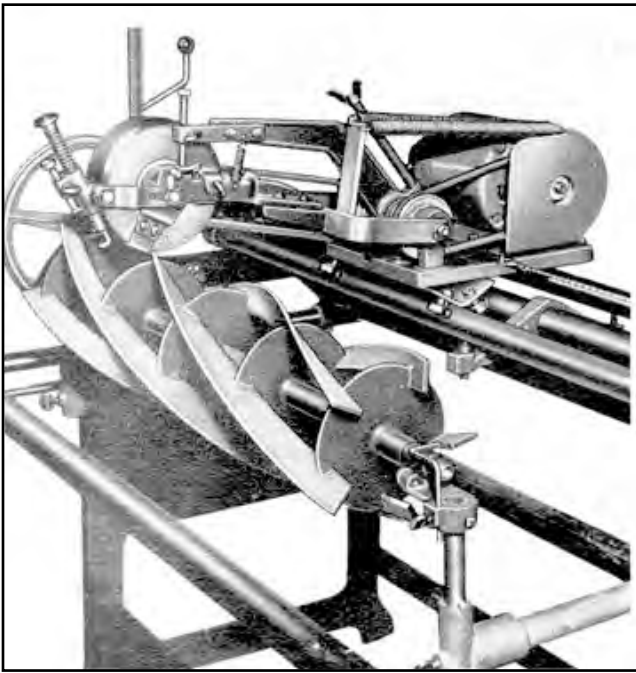

Fig. 20
91. You further have a choice, with the Ideal, of grinding the reel by the straight line principle either in the mower frame with the reel mounted in its own bearings or completely removed from the mower frame, mounting the reel on the offset V-bearing supports provided. (See fig. 19 & 20) If the mower is of such a design that the complete reel assembly is readily removed from the frame, as many of the modern type mowers are, particularly those which have the cutting section in front and out ahead of the drive wheels or rollers, the bed knife can be set aside and the reel ground completely separate. For this operation, after the reel has been removed from the frame of the lawn mower, the offset V-rests equipped with bearings are used to hold the reel in the Ideal. (See figure 20). These offset reel support bearings are slipped on over the small V-type mower support shafts, and the mower supports then spaced so that the reel will fit on these offset V-bearings. Most reels have turned shoulders of different diameters, and the inner-most shoulder is usually the area that the reel bearings fit on. Whenever possible this area should be used.
94. The reel axle shaft is now set parallel and level with the grinding wheel travel and you are ready to set the proper bevel by moving the grinding wheel to the center of the reel and lowering the grinding head either with the support arm, if a broad adjustment is needed or with the feed control screw if you are within a quarter of an inch of the reel blade when turned back and forth under the grinding wheel. The same procedure for setting the bevel is used as in the hook grinding principle previously covered with the exception that the feed control screw is now the one controlling the grinding head by passing through the support arm and bearing against the grinding wheel supporting fork as shown in figure 20. Using this feed control screw, lower grinding wheel until contact is made with the reel blade. Rotate reel blade toward you from in under the grinding wheel and lower grinding wheel an additional one quarter to one third turn of the feed control screw. Rotate reel blade back and against the grinding wheel (it will no longer pass under the grinding wheel due to the amount you have lowered it) at this point of contact, rotate bevel control finger down and against the reel blade and the bevel is set. (See fig. 20). You are ready to grind and no other adjustments are necessary. If you find, while grinding, that contact is heavier at one end of the reel than at the other, it is due to the reel being smaller in diameter at one end than at the other. (Remember your reel has been squared up both ways under the grinding wheel and with its line of travel thus assuring a true cylinder when grinding has been completed.) Number reel blades and start grinding in whichever direction permits the contact of the grinding wheel to cause the reel rotation and hold the reel blade against the control finger. After grinding to the extreme end of the first blade, to return the grinding head to the starting end, permit the back side of the bevel control finger to rub against the reel blade and cause the reel rotation necessary to return the grinding head to the starting side of the reel. Engage reel blade number two and repeat the grinding procedure as outlined in the preceding instructions for grinding reel blades.